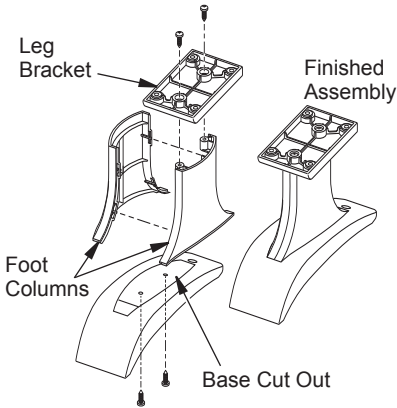

Figure 11 - Assembling Base Feet
1. Snap the left and right foot columns together (see Figure 11).
2. Place the column assembly in the center of the base cut out. Fasten column assembly by using two Phillips head self tapping screws (provided) (see Figure 11).
3. Place leg bracket on the top of column assembly and fasten it by using two Phillips head self tapping screws (provided) (see Figure 11).